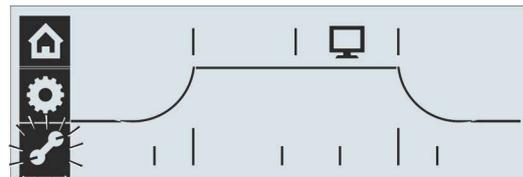

Fig. 3: Select Parameter menu
3. Select 'Parameter' menu: Turn Drive Controller, until the 'Parameter' symbol  starts to flash (fig. 3).